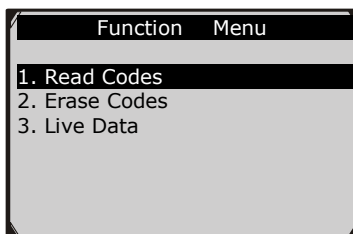

Figure 5.22
1. With the **Function Menu** screen displayed (Figure 5.22), select **Erase Codes**. The scan tool displays an instruction message.